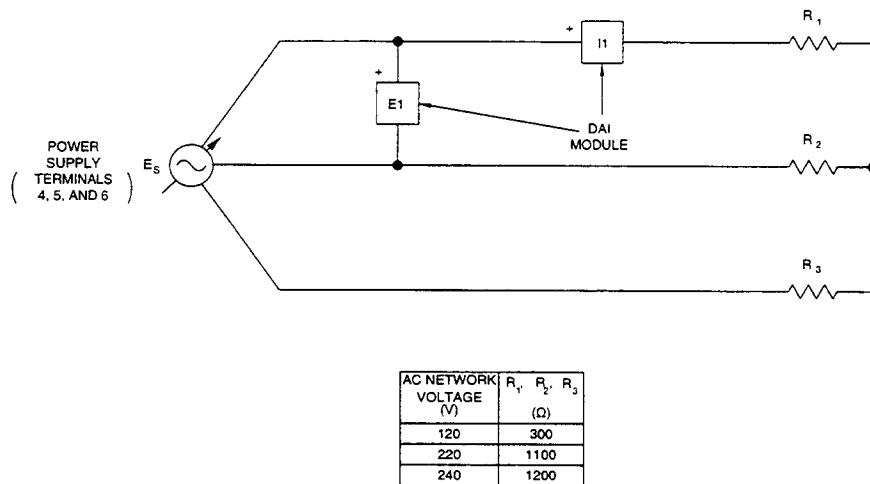

Figure 6-1. DAI module connection for measuring power in a balanced three-phase circuit.
- 4. Connect the equipment as shown in Figure 6-1.
Note: The red terminals of inputs E1 and I1 on the DAI module correspond to the terminals marked with a plus (+) sign in Figure 6-1.
On the Resistive Load module, set the toggle switches so that the resistance of resistors R_1 , R_2 , and R_3 is equal to the value indicated in Figure 6-1.
- 5. Start the Metering application of the LVDAM-EMS system. The entry window of the LVDAM-EMS system should appear on the computer screen. Click the Acquisition button in this window to display the Metering window. The LVDAM-EMS system is now ready for measuring parameters in the electrical circuit of Figure 6-1.